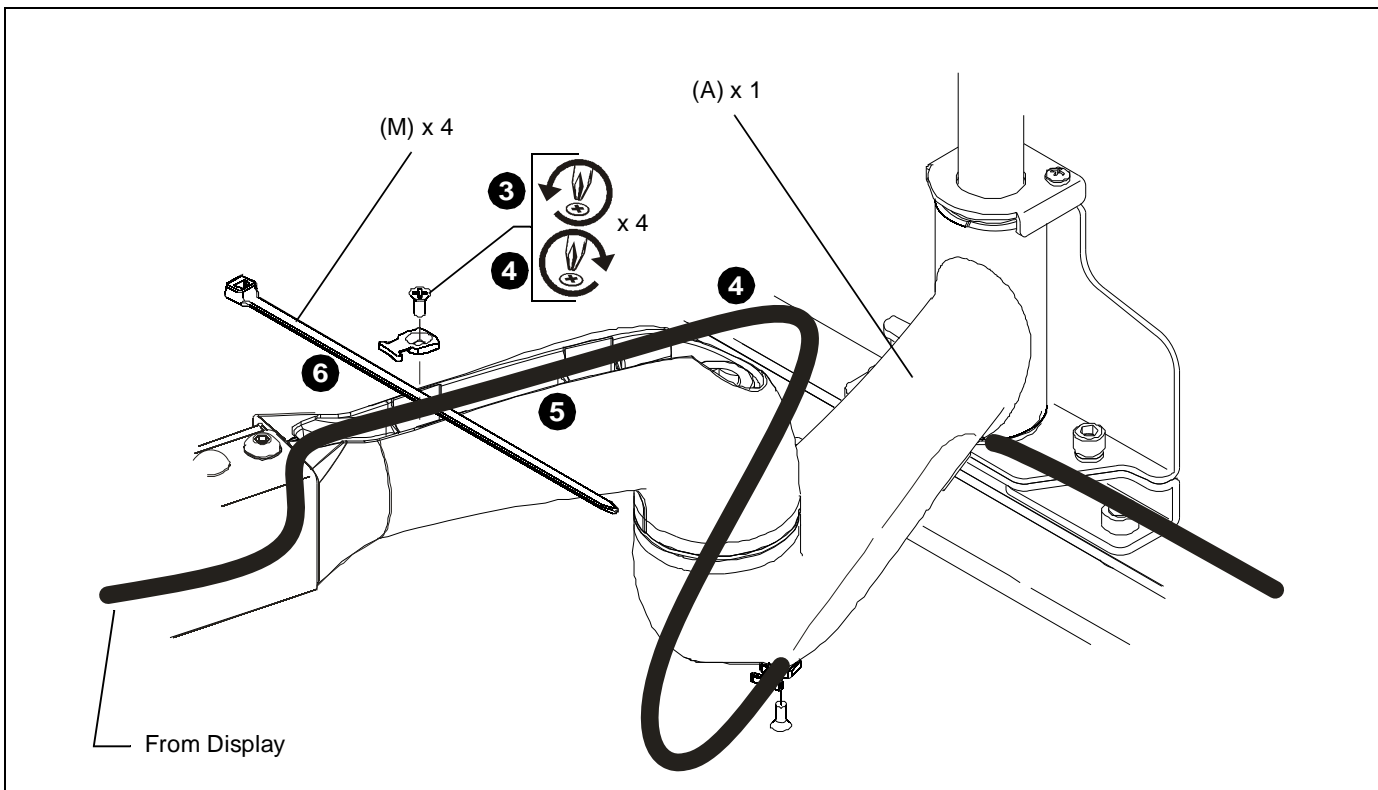

Figure 6
3. Loosen front and rear cable clamps on top arm. (See Figure 6)
4. Thread cable ties (M) under cable clamps and secure clamps to top arm. (See Figure 6)
5. Route power/audio/video cables through the cable channel in top arm (See Figure 6), allowing sufficient slack in cables for left/right movement of display and swing arm and also swing arm extension and retraction.
6. Secure cables to top arm using two cable ties (M).